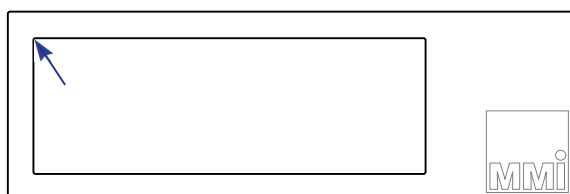

Figure 5.38: Suggested positions on a *mmi* Membrane slide to precisely adjust the stage insert position.
5. scan an overview image in slide 1, see 5.4.4 and adjust the image to the slide position by shifting the whole insert. To get a precise positioning we recoment to adjust the image of the left upper corner of an membrane slide (Fig. 5.38) or the image of wells of an ampligrd to the displayed slide.